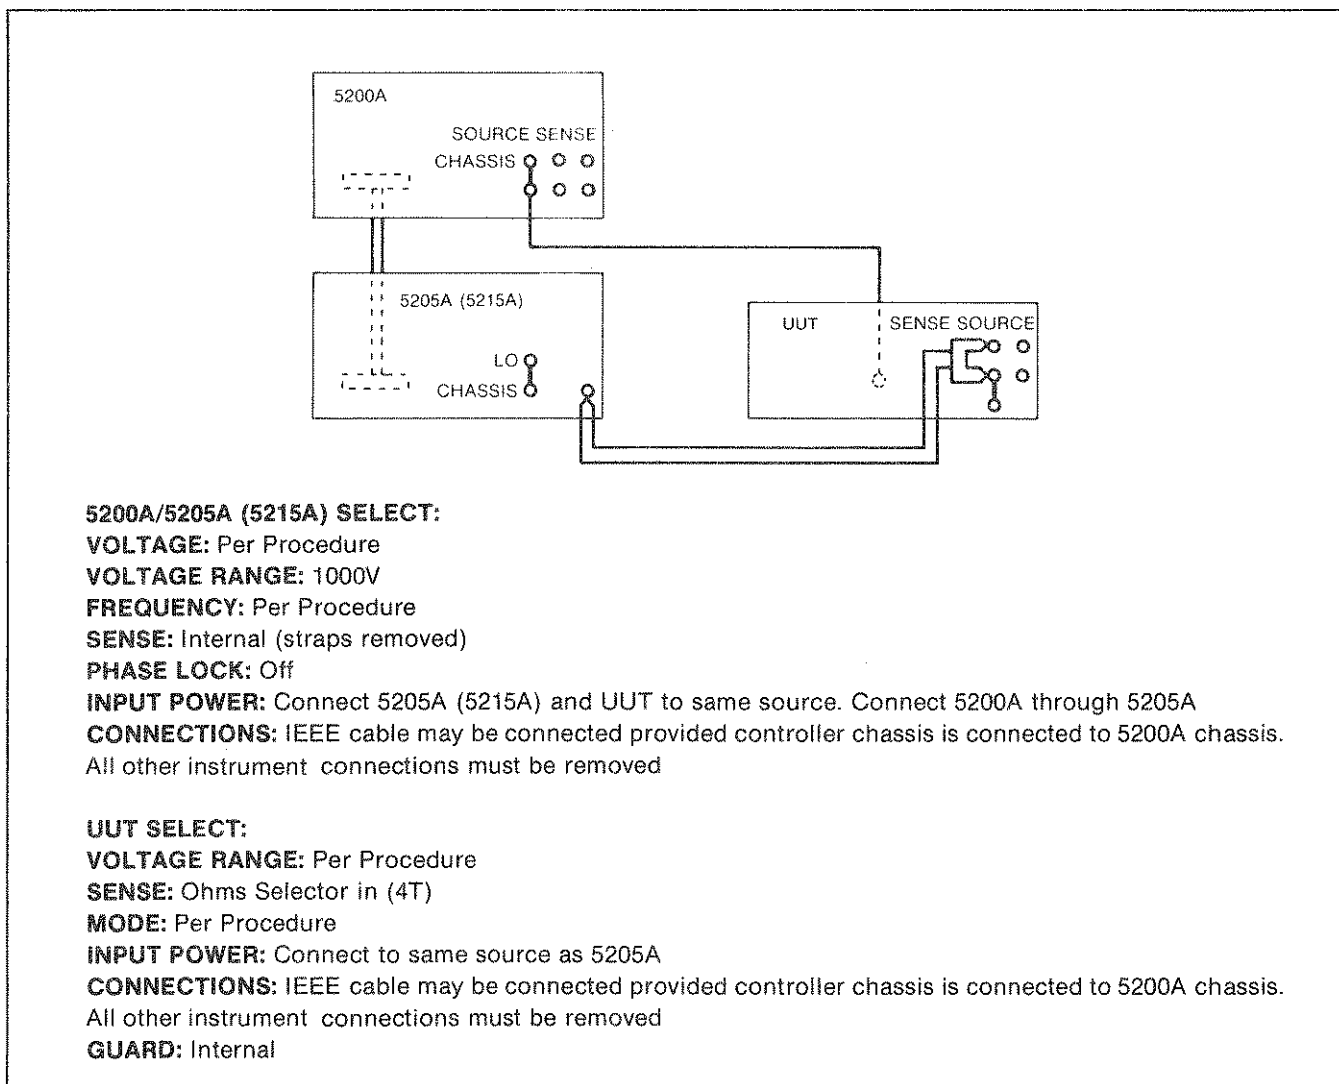

Figure 4-9. Equipment Set-Up E
18. Connect the 5200A/5205A (5215A) combination to the UUT input terminals as shown in Figure 4-9.